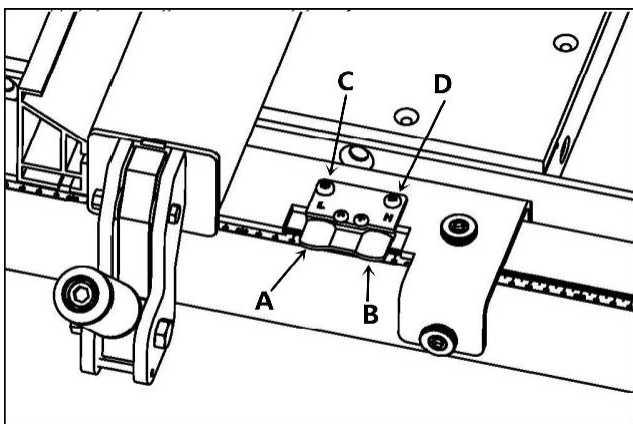

Fig. 13
3.4.5. Post the tape scale use the pointer window (Fig.13)
The machine features a Hi-Low fence with two pointer windows. As shown in Fig.13. The pointer
Place the fence as a high fence, as shown in Fig.13. Slide the fence against the blade, check that if the "0" mark is directly under the red line on the pointer window (B), if any deviation occurs, loosen the screws (C&D), micro-adjust the window, so that the red line on the window is over the "0" mark on the tape, then secure the screws (C&D).